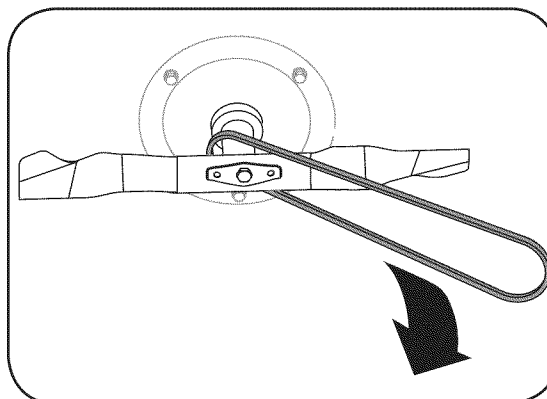

Figure 5-5
- Then remove the belt from around the blade by removing over one end at a time. See Figure 5-5.